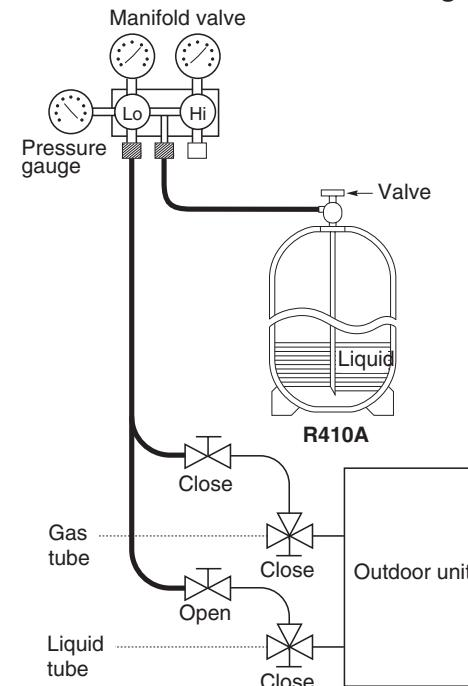

Fig. 2-37
- Charging additional refrigerant (calculated from the liquid tube length as shown in Section 1-9 "Additional Refrigerant Charge") using the liquid tube service valve. (Fig. 2-37)